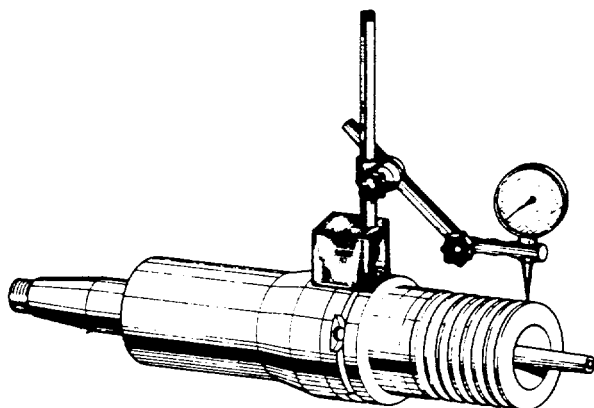

Fig. 8/6
- Use a micrometer clock-gauge to check V-belt pulley 158 for centric run (Fig. 8/6).